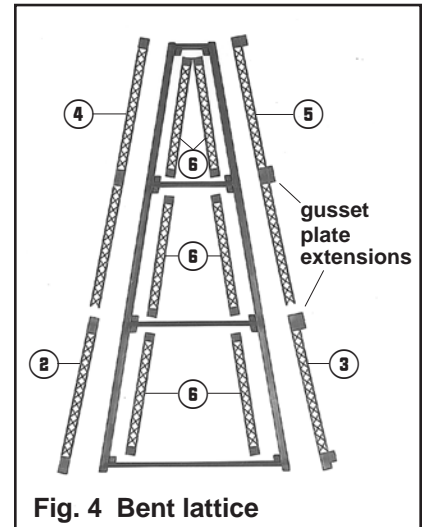
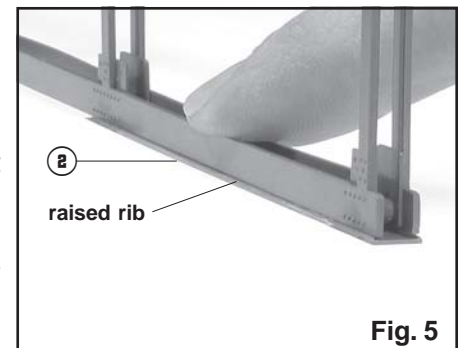

Fig. 4 Bent lattice
Fig. 5
2. Trim the gusset plate extensions off parts (2), (3), (4), and (5).
Note in Fig. 4 that parts (2) and (4) are shown after their gusset plate extensions were trimmed off and parts
(3), and (5) are shown before the extensions were trimmed off. Place the parts on the work surface with their rivet sides down. With a razor knife, trim off the two gusset plate extensions, cutting along the outside edge of the raised rib.
3. Cement the **outside bent lattice**, parts (2), (3), (4), and (5) to the bent assembly. Figure 4 shows their general position. (For clarity, the parts are shown flat in figure 4, they would actually be on edge if cemented to the bent halves.)
Note that all bent lattice parts have a raised rib along each edge on one face. To assemble the outside bent lattice, lay part (2) flat on the work surface with the rib side up. Place the bent assembly on edge on top of part (2) so the ribs are on the outside of each bent half. See fig. 5. Cement in place, one edge at a time, while holding the bent half against the rib. Be sure the end of part (2) is flush with the end of the bent. Repeat with parts (3), (4), and (5).
4. Trim the excess plastic from the gusset plates of parts (6), (7), (8), and (9) but **not** (10). Important: See **III. Notes** on page 1.
5. Cement the **inside bent lattice** parts (6) to the bent assembly. Figure 4 shows their general position.